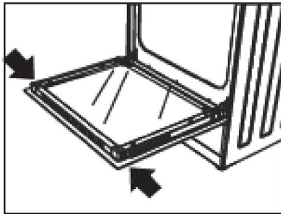

Fig. 1
- Press the plastic latches on both left and right sides as shown in Figure 1 and